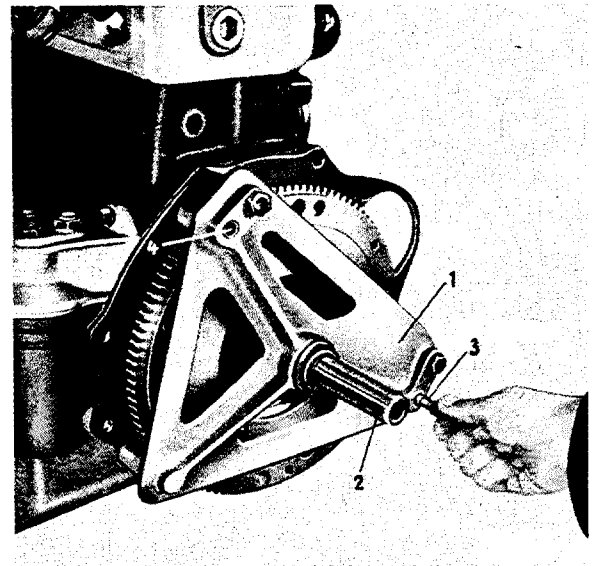

Fig. G 2/2
2. To center the device insert plug (2) right up to the collar. The journal of the plug will center itself in the inner race of the crankshaft ball bearing. Insert the two plug gauges (3) of 8 mm (0.315") diameter (Fig. G 2/2). Tighten the screws fastening the device to the intermediate plate. After the screws have been tightened, it must be possible to turn the two plug gauges and the center plug by hand. Enlarge offset and worn-out pilot holes with a drill.